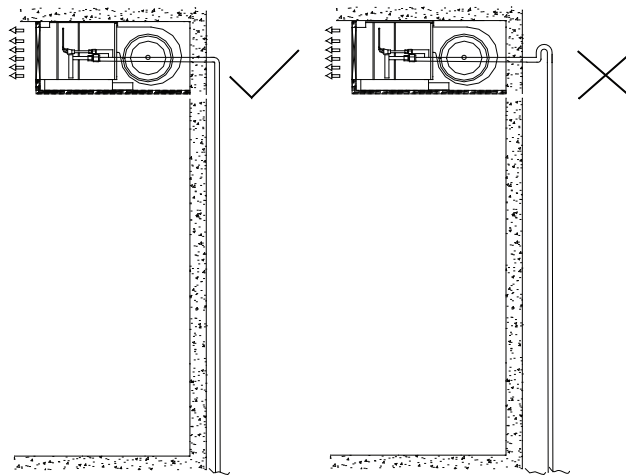

Fig. 6 - Condensate Drain Slope
3. Connect the soft / hard vinyl chloride pipe to the coupling. (See Fig. 6.)